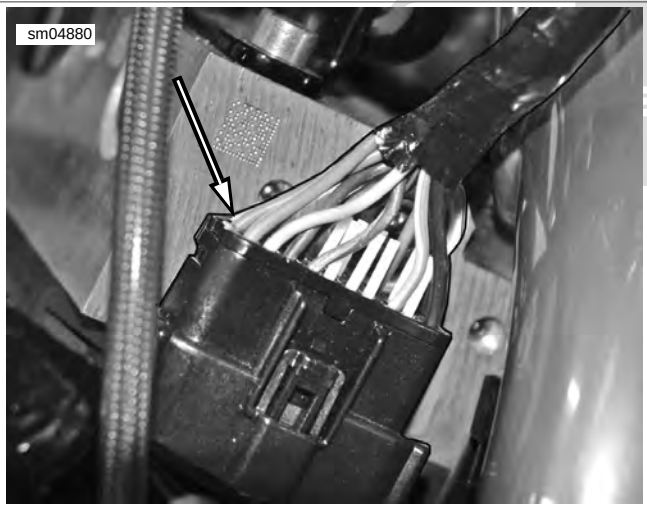

Figure C-3. ABS Module Plug
- a. Insert battery tray (9) into frame.
- b. Install battery tray with nuts (8) and fastener (7) as shown. Tighten fasteners to 6-10 Nm (53-88 in-lbs).
- c. Install left side battery caddy (5), right side battery caddy (11), battery (6) and strap (1).
- d. See Figure C-3. Connect ABS module plug to ABS module.